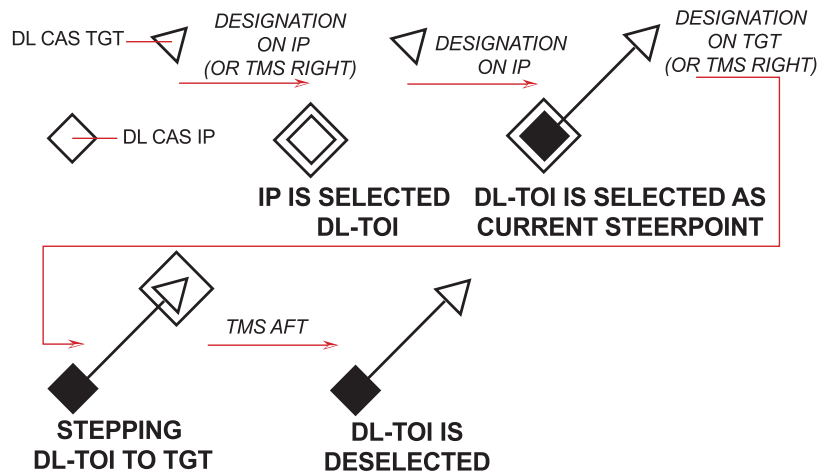

Figure 3-10 Hands-On DL CAS IP/TGT Selection
CAS messages received in AFAPD protocol are stored in an Initial Point (IP) and a Target (TGT) location for steerpoints 71-80. The received CAS IP and TGT are displayed on the HSD provided they are within the HSD FOV. The IP is displayed as a square and the TGT as a triangle (Figure 3-10). Hands-on selection of CAS messages (displaying the CAS page on the DED) and selecting the CAS IP or CAS TGT as the current steerpoint, is available only when the SOI is on the HSD. For example:
- 2) TMS Right (RT): Selects the last received CAS message and places a square around ("boxes") the CAS IP or CAS TGT if no IP is available. A subsequent TMS RT steps the box to the CAS TGT (if a CAS IP was boxed) or next CAS STPT in sequence (STPTs 71-80) if a CAS TGT was boxed. A TMS RT from steerpoint 80 will cause the system to wrap back to steerpoint 71 in search of the next available CAS steerpoint.
- 3) TMS Left (LT): Displays the CAS DED page; or, if the CAS DED page is being displayed, sequences to the next CAS DED page in the rotary (STPTs 71-80).